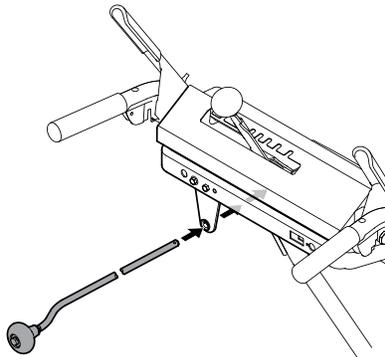

Figure 2-16
4. Insert chute control rod into the support bracket on rear of the dash panel. See Figure 2-16.